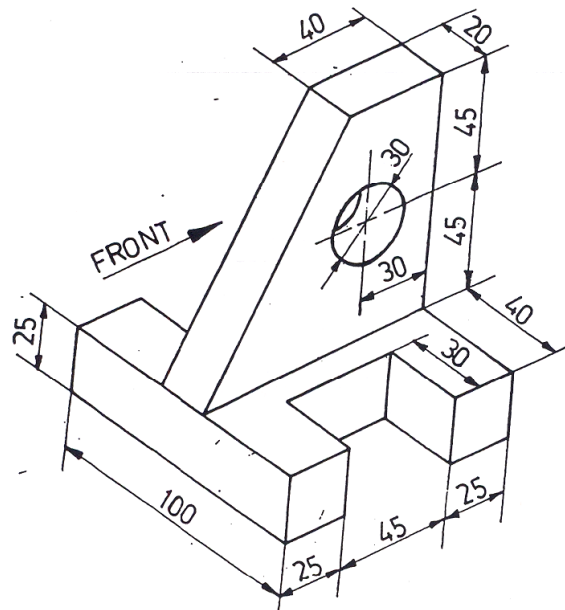

Fig. 3
6. The Pictorial view of an object is shown in fig.3. Draw the following views to full size scale.